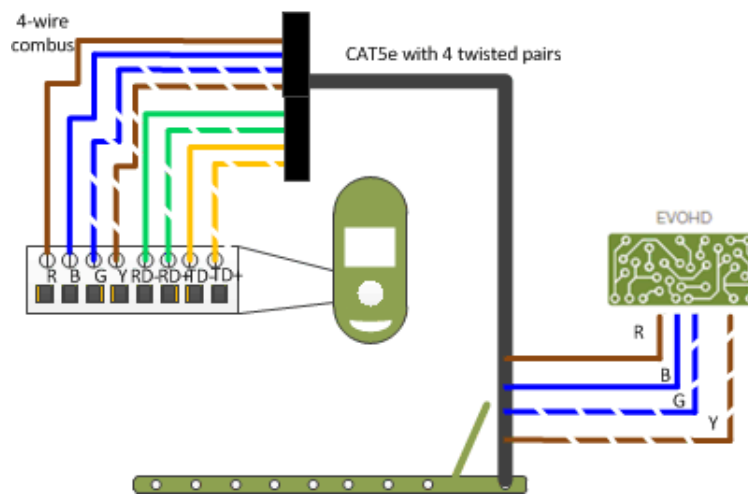
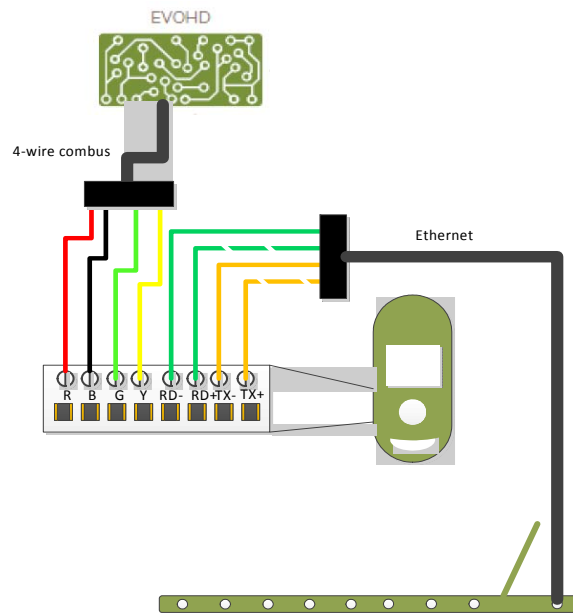

Figure 13 – Recommended wiring for using the CAT5 or higher cable option.
Figure 14 – HD77 2 Cables Wiring
8. Connect the combus wires and the Ethernet wires. See *Figure 13* and *Figure 14* for wiring instructions.
- Step 6. Connect the wires to the terminal board as seen in *Figure 14 on page 14* and *Figure 13 on page 13*.